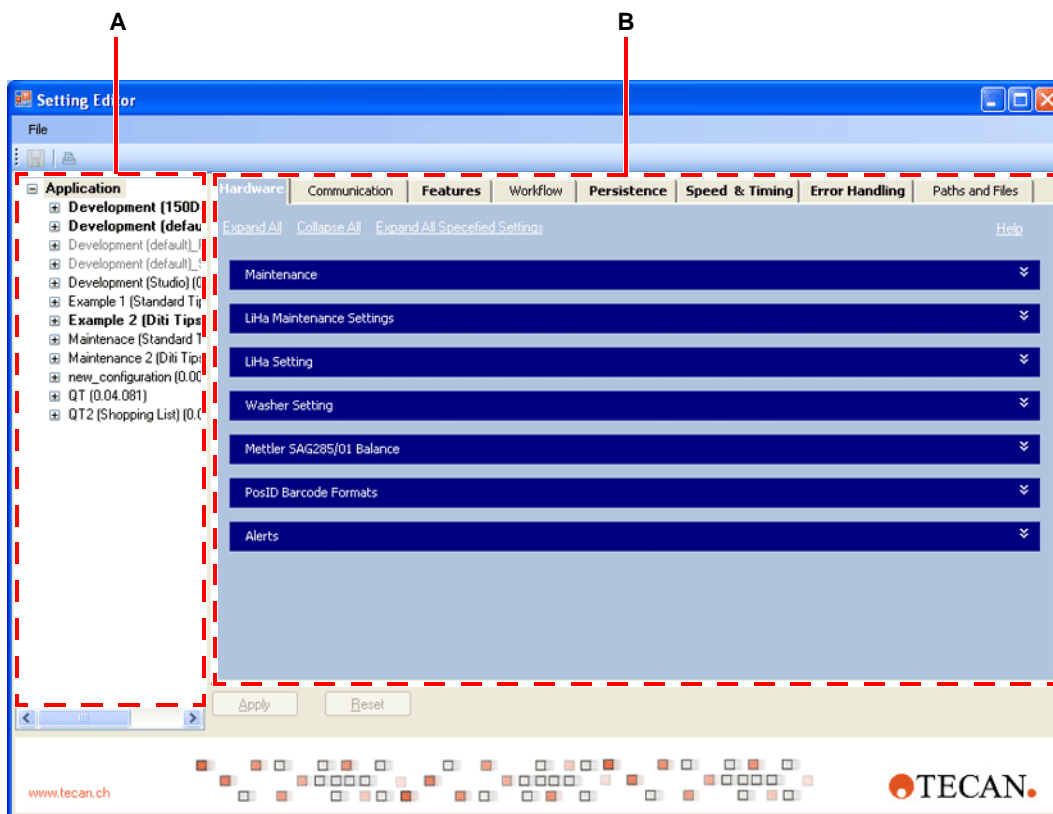

Fig. 5-2 Settings Editor
The Settings Editor user interface has been divided into two sections showing a tree viewer (A) containing the different settings levels on the left and the editing tabs (B) on the right Fig. 5-2, Fig. 5-2.